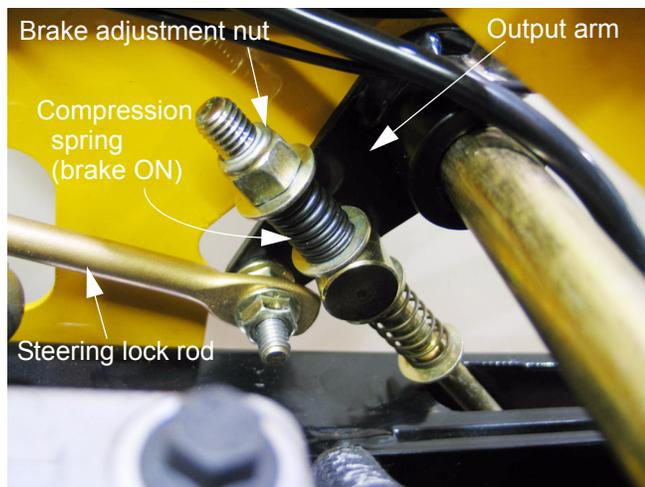

Figure 21.12
21.12. If the wheel will not rotate, or there is doubt as to whether the brake is fully released or not, loosen the adjustment nut until the wheel will rotate. See Figure 21.12.